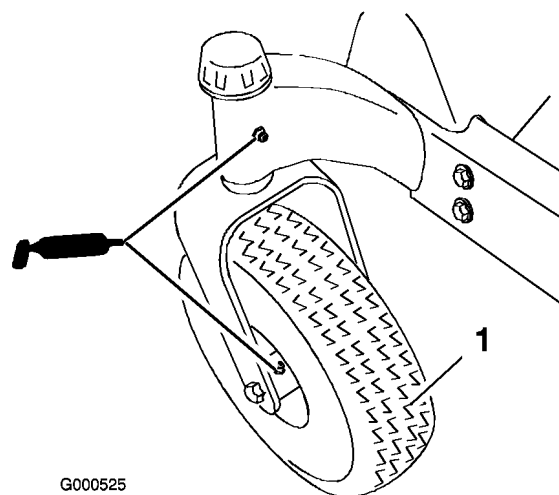
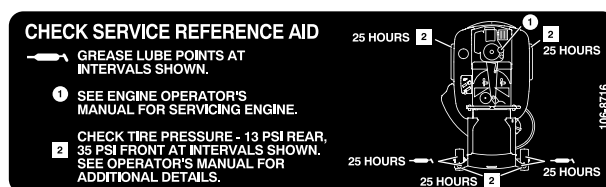

Figure 19
Figure 20
Grease the front caster pivots and wheels (Figure 19).
3. Clean the grease fittings (Figure 19 and Figure 20) with a rag. Make sure to scrape any paint off of the front of the fitting(s).
4. Connect a grease gun to each fitting (Figure 19 and Figure 20). Pump grease into the fittings until grease begins to ooze out of the bearings.